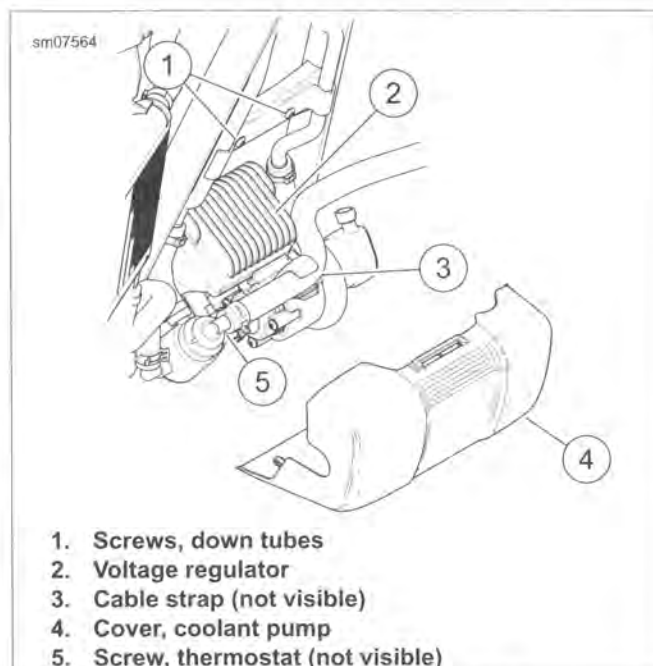
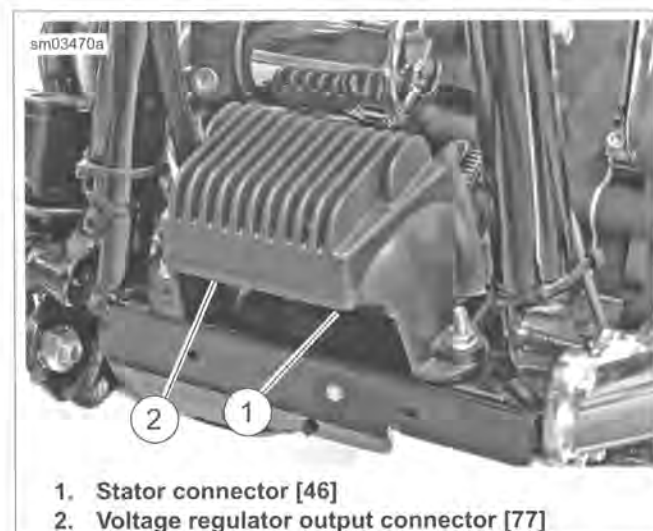
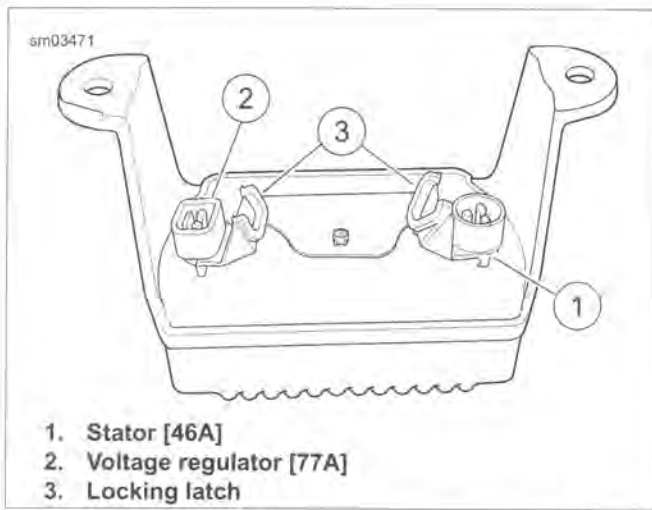

Figure 7-63. Cooling Components
Figure 7-64. Voltage Regulator (Left Side View)
Figure 7-65. Voltage Regulator (Bottom View)
- a. See Figure 7-63. Remove coolant pump cover (4). Cut cable strap (3).
- b. Remove screws (1) securing coolant downtubes.
- c. Remove screw (5) securing thermostat.
4. See Figure 7-65. Release locking latch and remove voltage regulator connector [77] (2).
5. Release locking latch and remove stator connector [46] (1).
1. See Figure 7-65. Install stator connector [46] (1). Secure connector with locking latch (3).
2. Install voltage regulator connector [77] (2). Secure connector with locking latch (3).
3. See Figure 7-64. Install voltage regulator with locknuts on studs. Tighten to 70-100 **in-lbs** (7.9-11.3 Nm).
- a. See Figure 7-63. Install screw (5) securing thermostat. Tighten to 48-60 **in-lbs** (5.4-6.8 Nm).
- b. Install screws (1) securing coolant down tubes. Tighten to 90-110 **in-lbs** (10.2-12.4 Nm).
- c. Install **new** cable strap (3). Install coolant pump cover (4).